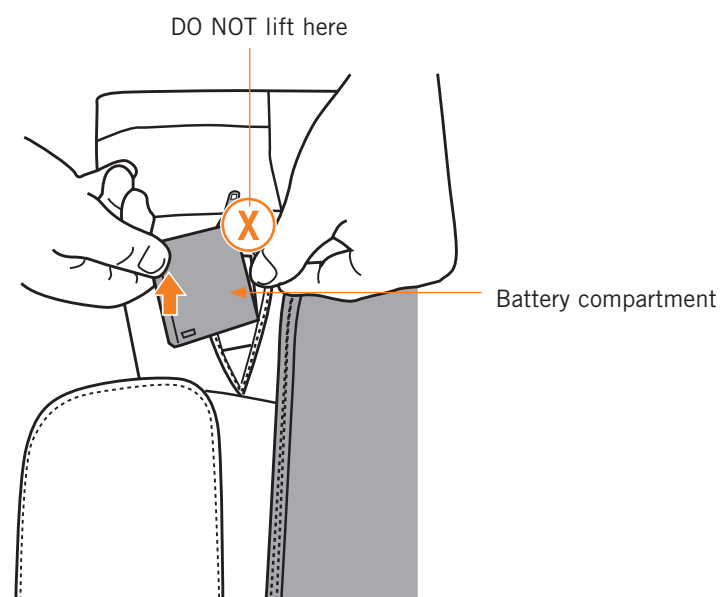

Fig.22
3. Lift the edge of the black battery compartment that is closest to the edge of the pad upward (do not pull up on the edge of the box from which the wiring is visible). (Fig.22).